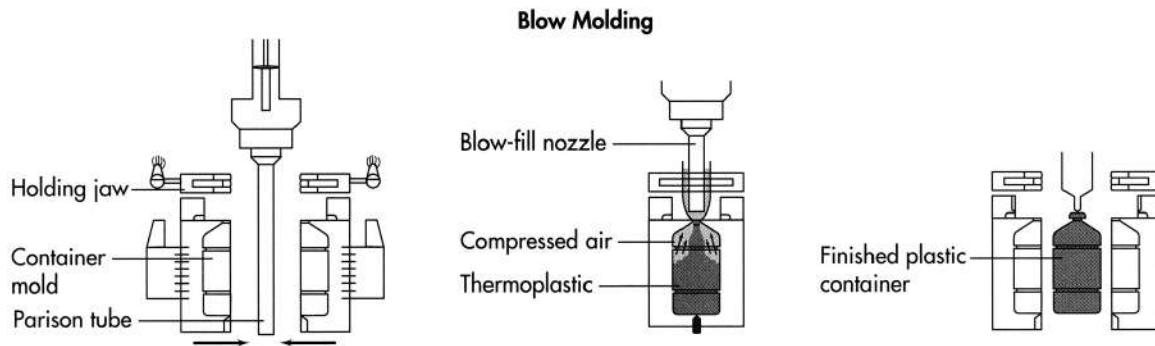

Figure 2. The sunscreen container is made by a blow-molding method, in which thermoplastic is extruded into a tube and blown into a mold.
which thermoplastics, plastics that soften when heated and harden when cooled, are extruded into a tube, called a “parison,” and placed into an open mold (see figure 2). The mold is closed around the heated parison, and the parison is pinched at the bottom to form a seal. Compressed air is blown through the top of the parison, which forces the softened plastic to expand to the inside walls of the mold, creating the shape of the container.
4. Because the monomers are lighter than the polymer, they evaporate upward and are piped out of the kettle into a second collector (see figure 2). In going from one vessel to the other, the monomers move through a series of cooling coils that allow them to become liquid. A second distilling might be performed for a high-quality product, and some manufacturers might even distill the monomers a third time.